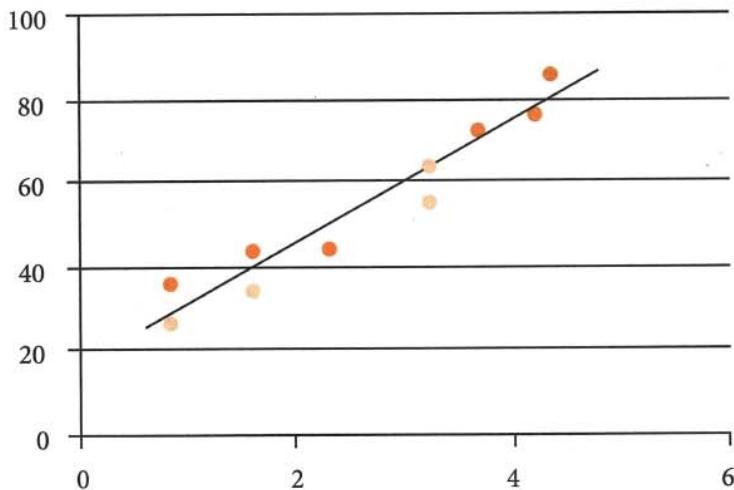

FIGURE 6.4 Regression analysis (scatter diagram)
- **Regression analysis¹⁰ (scatter diagram)** This diagram tracks two variables to see if they are related; the diagram is then used to create a mathematical formula to use in future parametric estimating (see fig. 6.4).